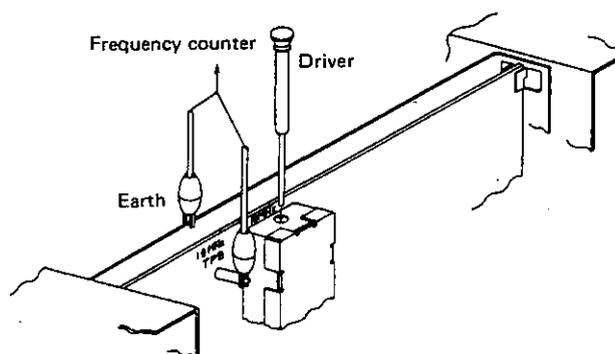

Figure 5.6 Adjustment of 10MHz Reference Oscillator
- (1) Remove the upper shielded cover of BFO unit, CGD-118A.
- (2) Connect a frequency counter to TP8 of BFO unit CGD-118A.
- (3) Insert a small driver into the hole (marked "10MHz") on the shield case and adjust the frequency to 10MHz by turning the trimmer capacitor (CV1) in the hole. (Fig. 5.6)